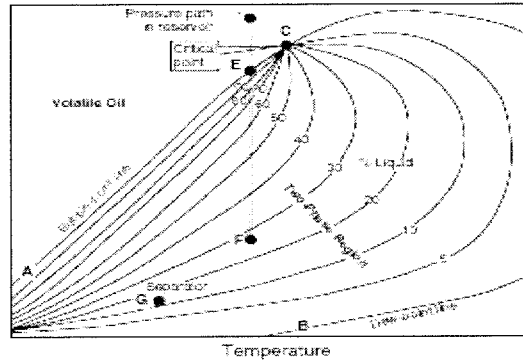
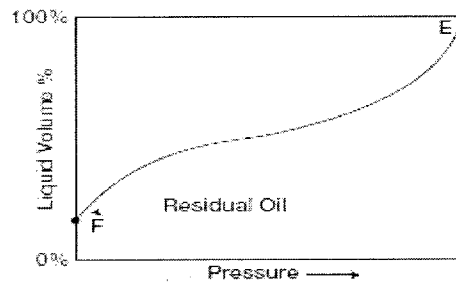

Figure 1-6. A typical p-T diagram for a volatile crude oil.
Figure 1-7. A typical liquid-shrinkage curve for a volatile crude oil.
3. **Volatile crude oil.** The phase diagram for a volatile (high-shrinkage) crude oil is given in Figure 1-6. Note that the quality lines are close together near the bubble-point and are more widely spaced at lower pressures. This type of crude oil is commonly characterized by a high liquid shrinkage immediately below the bubble-point as shown in Figure 1-7. The other characteristic properties of this oil include: